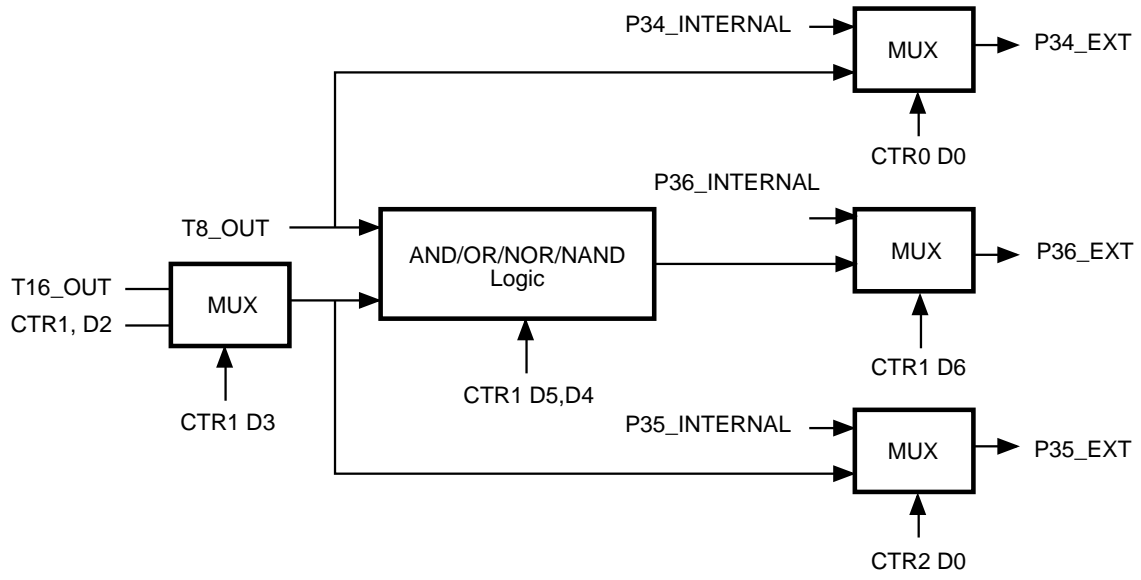

Figure 36. Output Circuit
**Stop-Mode Recovery Edge Select (D6).** A 1 in this bit position indicates that a High level on any one of the recovery sources wakes the Z86E7X from STOP mode. A 0 indicates Low level recovery. The default is 0 on POR (Figure 36).